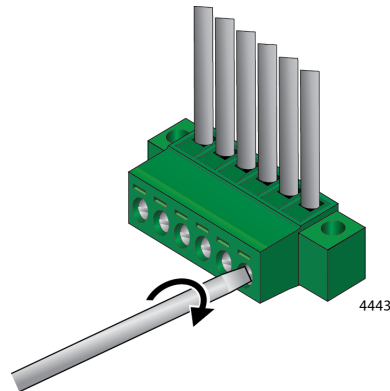

Figure 35. Tighten Wires In Power/Alarm Connector
7. Tighten the retaining screws on the power/alarm connector to secure the wires to a torque value 7 lb-in. Refer to Figure 35.